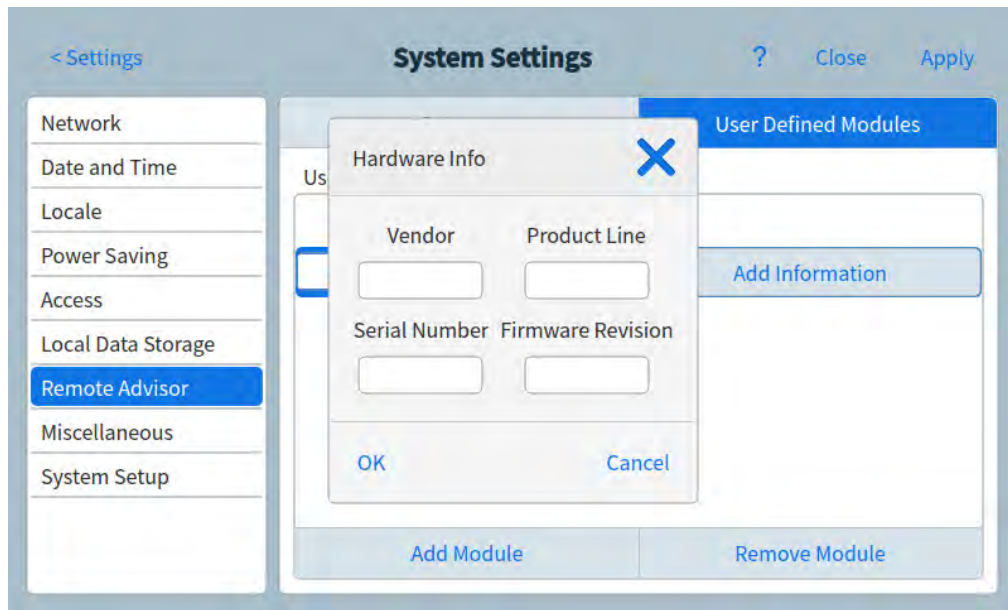

Figure 51. Remote Advisor page - Hardware Info dialog box
- d Select **Add Information**. The Hardware Info dialog box appears. See **Figure 51**.